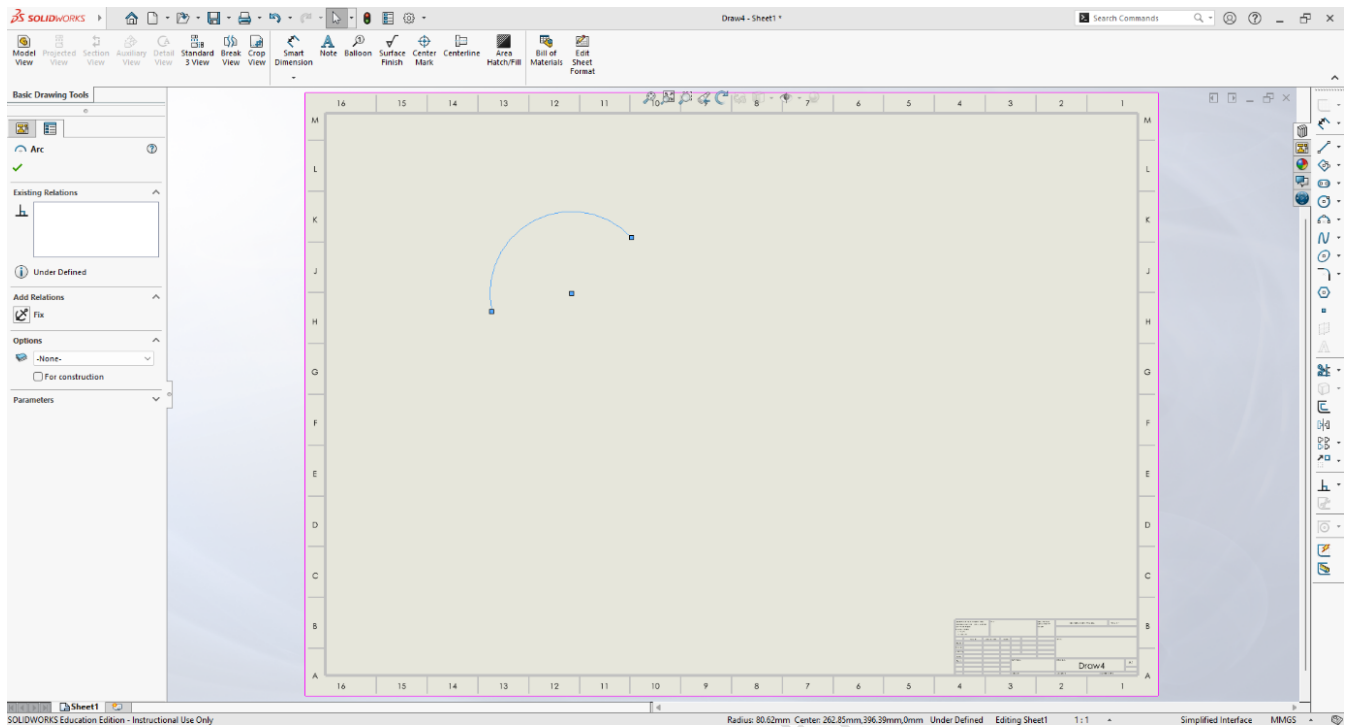

Figure 2.15: CenterPoint Arc
6. A Centre Point arc is shown by the start point, end point, and the arc's centre (Figure 2.15).